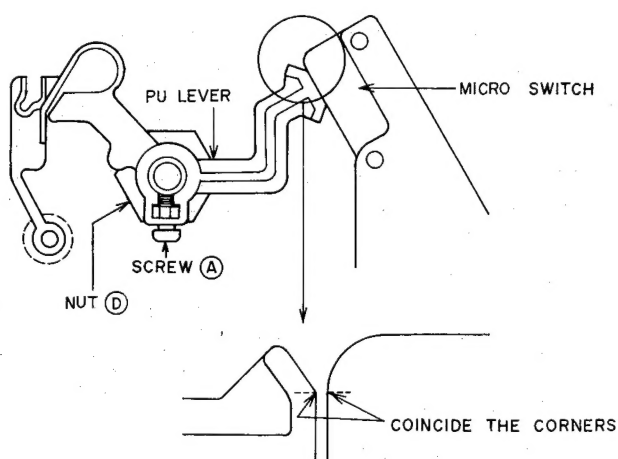
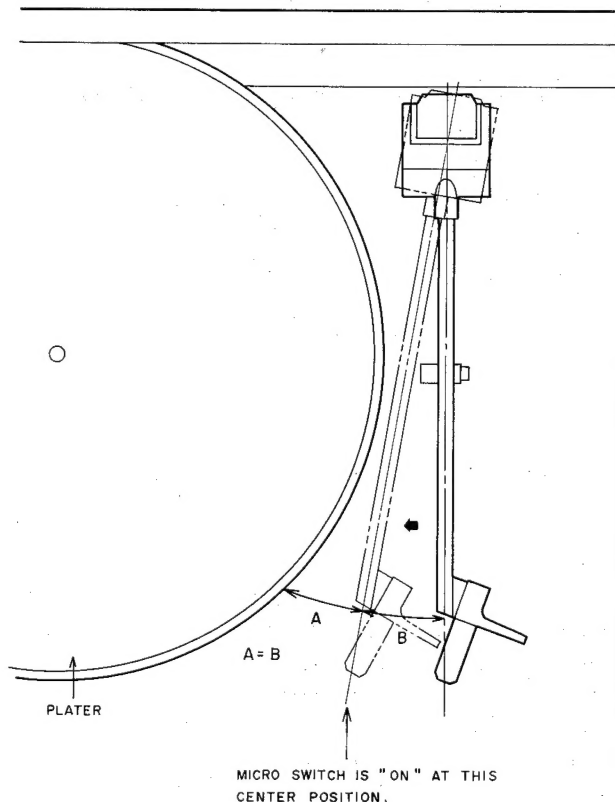

Fig. 5-3
Fig. 5-4
- 3) Turn the PU LEVER so that the corner of those PU LEVER and Micro Switch are coincide as shown in Fig. 5-3.
- 4) Tighten the screw (C).
- 5) Move the Tone Arm to the spindle side, and confirm that micro switch is switched "ON" at about center between Tone Arm Rest position and Platter as shown in Fig. 5-4.